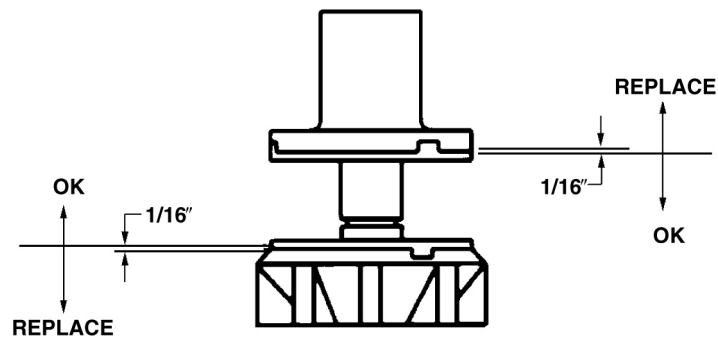

Figure 4. Upper Nut and Bearing Assembly
7. Check white upper bearings on auger assembly. If bearings are less than 1/16" thick, replace. See Figure 4)